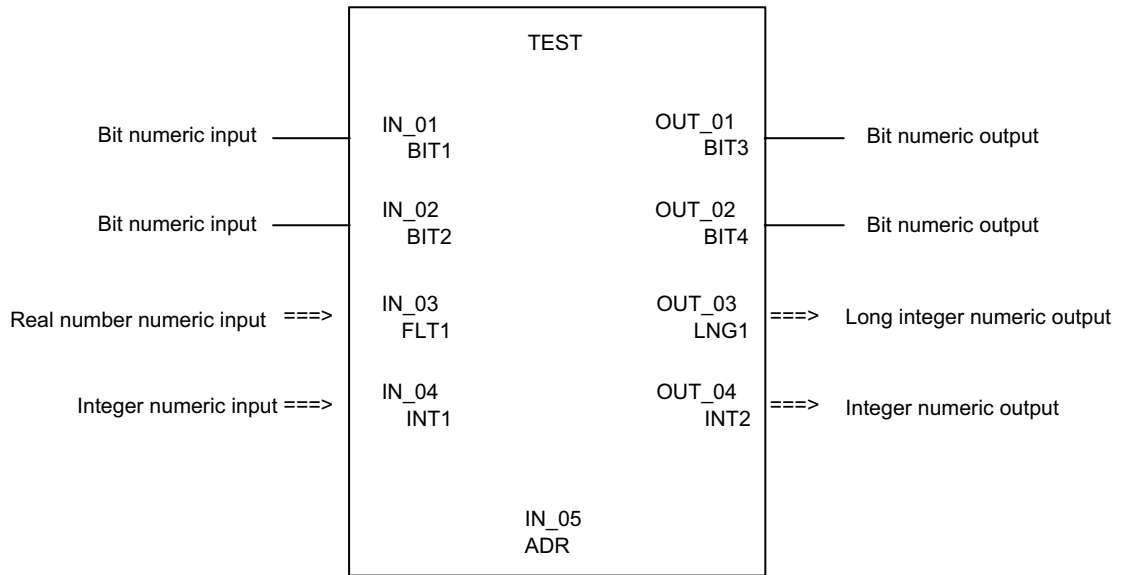

Fig. 3.8 Graphic Representation of a Function 2 (Example)
2. Fig. 3.8 shows an example of the I/O definitions of a function.
3. I/O signal addresses are automatically allocated from the highest signal on the graphic representation. For the example given in Fig. 3.8, the allocation of each I/O register will be as shown in Table 3.10.
4. The function I/O registers shown in Fig. 3.8 are allocated automatically. The external framework of the function is completed at this stage.